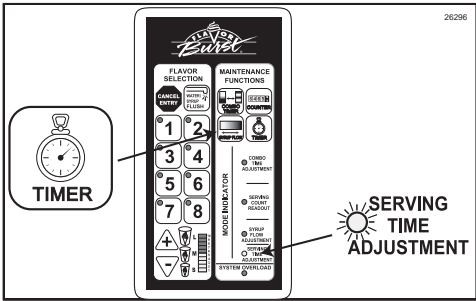

Figure 194
2. Press and hold the TIMER key for three seconds until the SERVING TIME ADJUSTMENT light is illuminated. (See Figure 194.)